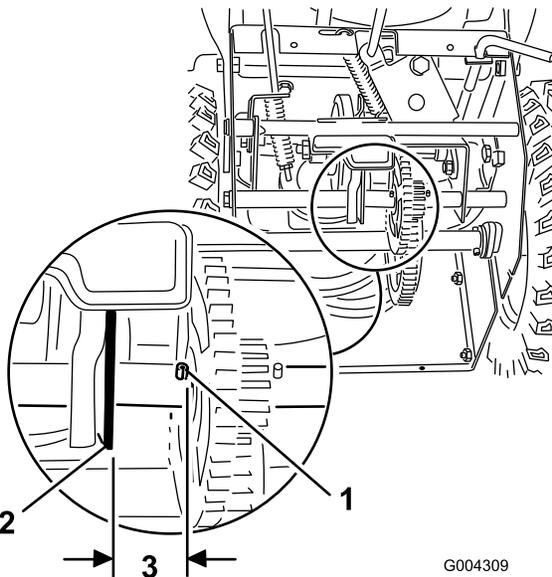

**Figure 23**
- Loosen the flange nuts that secure the selector plate to the control panel (Figure 23).
**Note:** The drive assembly should be 1/8 inch (3 mm) from the roll pin; if not, slide the selector plate (Figure 23) until the gap is 1/8 inch (3 mm); refer to Figure 24.